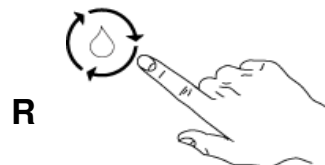

Fig.19
- 1- Press button “R” to select continuous washing cycle. (Fig.19)